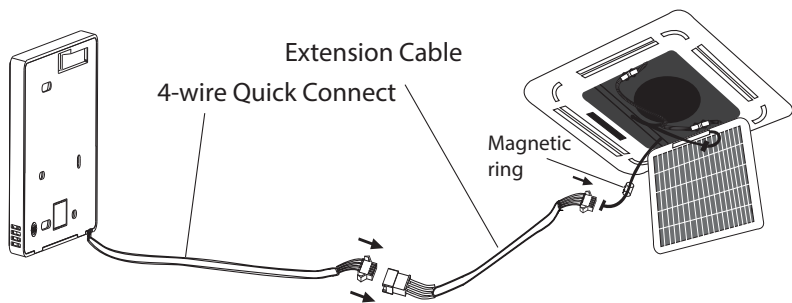

Fig. 8 — 4 - Wire Quick Connect
- e. Run interconnecting cable from the wired controller to the indoor unit connecting to the PCB board using the quick connects. The included magnetic ring reduces any high frequency noise from the communication wire, which is installed on the connection cable close to the indoor unit (see Fig 8).